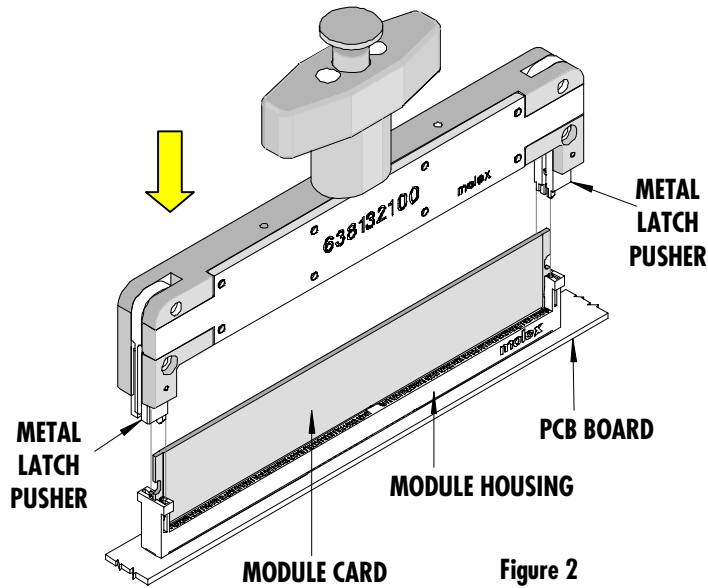

Figure 2
1. Align the metal latch pushers (2) with the slots on the module card housing. See Figure 2.